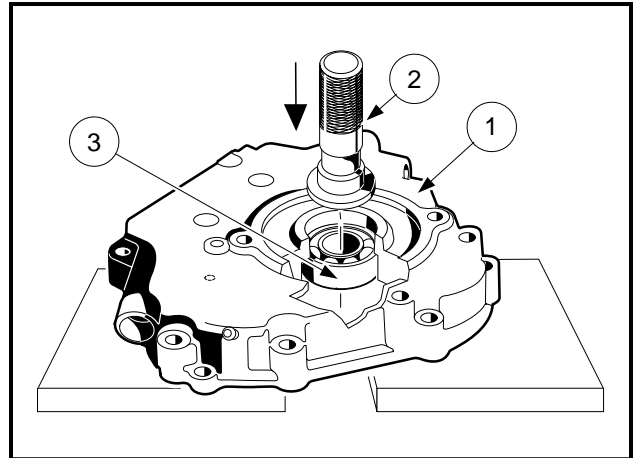

Figure 13-90 Ball Bearing Removal
2. Place the crankcase cover (1) on a bench with its outside up (gasket surface against bench) (**Figure 13-90, Page 13-40**).
3. Using a bearing driver (2) (Part of Club Car Bearing Driver Kit, Part No. 1016416), drive out the ball bearing (3) as shown.